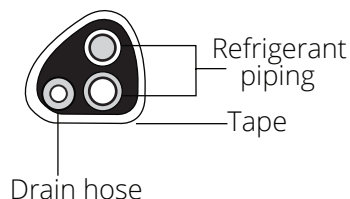

Fig. 4.7
3. Now, you will need to lightly tape the refrigerant piping and drain pipe together in a bundle, using electrical tape, making sure that the drain pipe is at the bottom. **DO NOT tape the ends of the piping (connectors).** Refer to **Fig 4.7** and the image below for the correct orientation of the piping when taping.